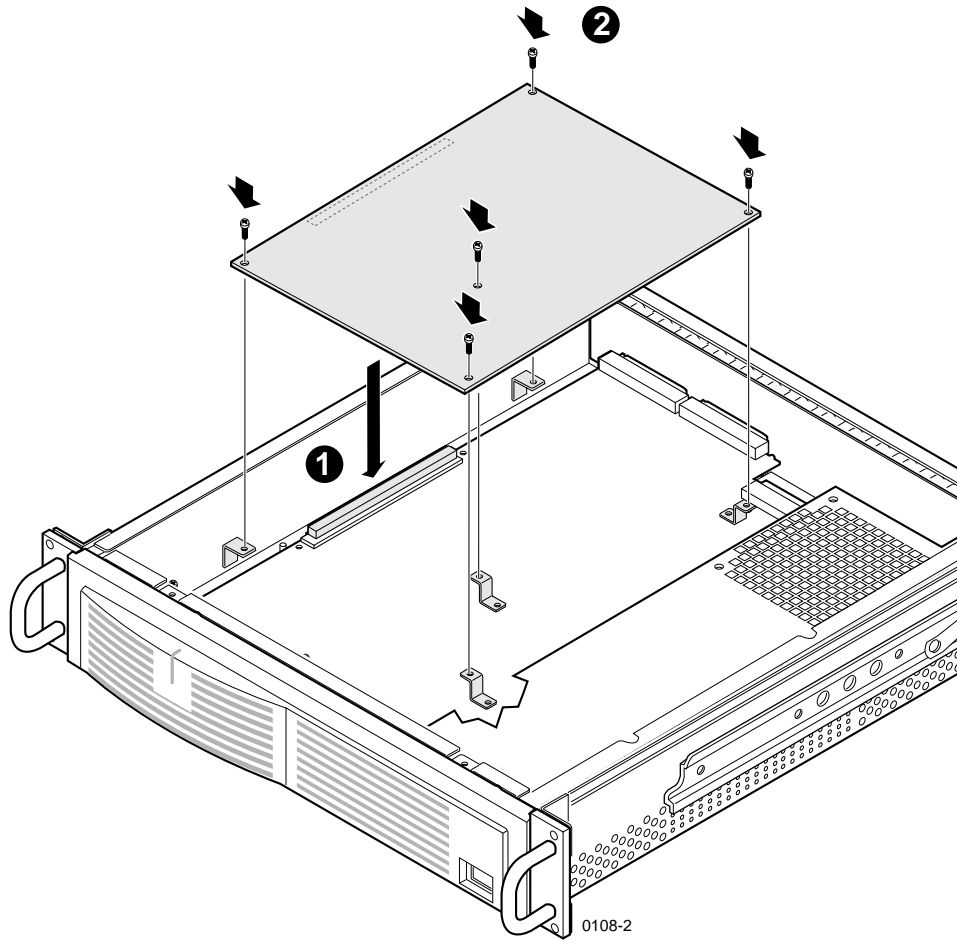

Figure 3. Installing the daughter card
2. Press down the expansion connector pins to seat the expansion connector in the motherboard (❶ in Figure 3).
3. Using the Torx tool with the T15 tip, attach the daughter card to the five brackets with five T15 head screws supplied in the kit (❷ in Figure 3).